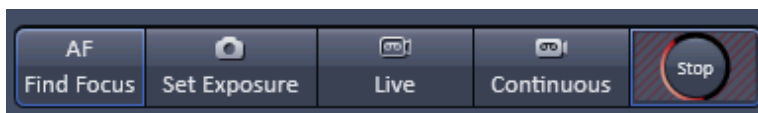

Fig. 69 Action buttons – AF Find Focus button active
**AF Find Focus** triggers a frame z-Scan. The system selects the z-position associated with the frame of highest intensity or contrast. **AF Find Focus** can be disrupted by pressing the **Stop** button, to which the **Snap** button changes upon activation (Fig. 69).